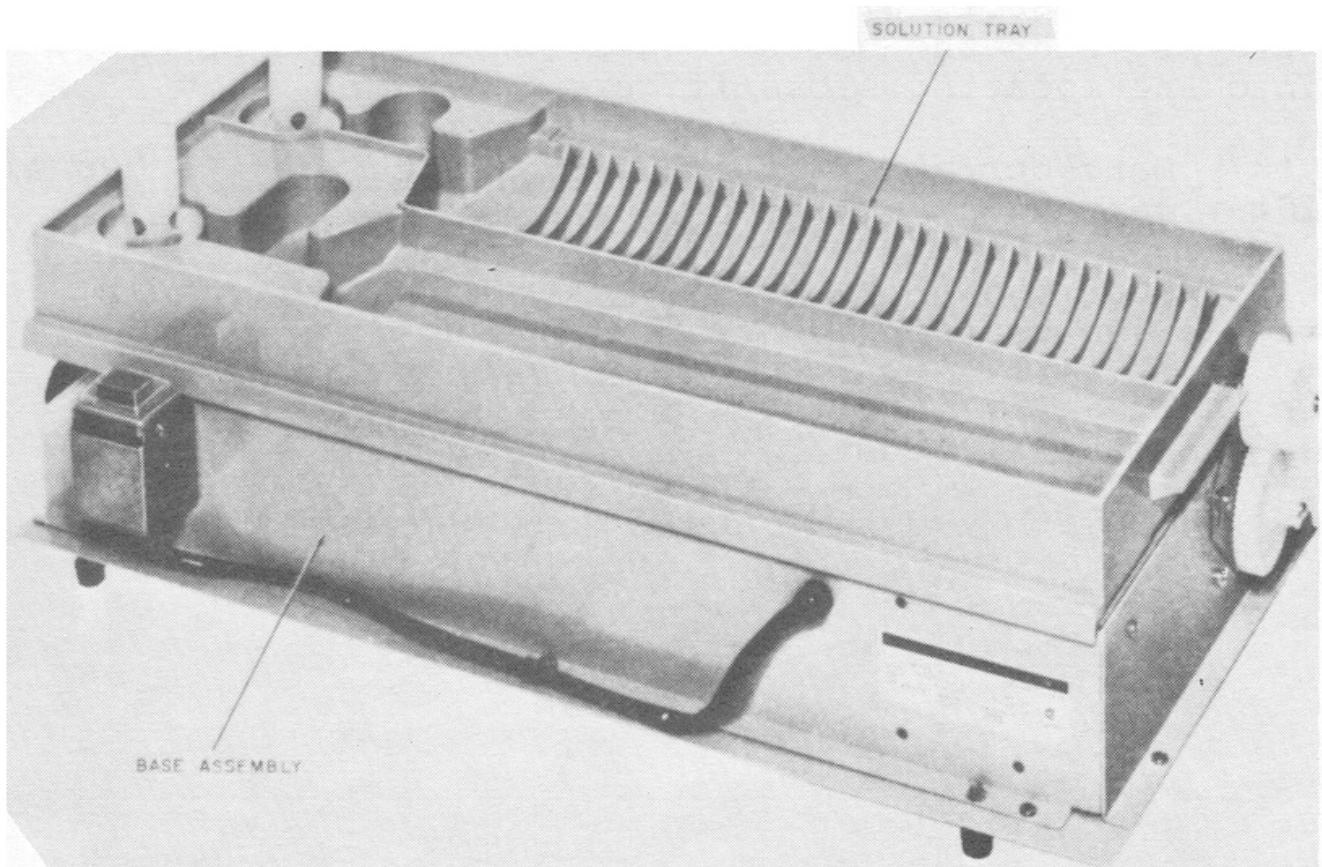

FIGURE 3-7. Solution tray assembled with base assembly.
b. Assembly of solution tray (figure 3-7).